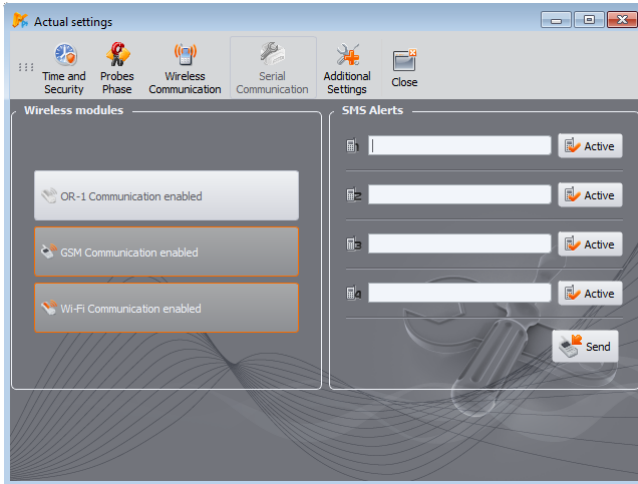

Fig. 32. Screen for settings of the analyzer, available wireless transmission media.
- Go to **WIRELESS CONNECTIONS** tab (Fig. 32) and check whether **WI-FI COMMUNICATION ENABLED** is active. If it is not, enable it.
- Go to **WIRELESS CONNECTIONS** (Fig. 32) and check whether **Wi-Fi COMMUNICATION ENABLED** is active. If it is not, enable it.